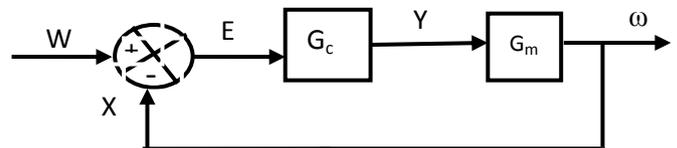

Fig. 2: Block diagram of the unit
speed  $\omega$  by noting that  $\omega(s) = s\theta(s)$ . Fig. 1 shows an additional rotor-disk system unlike lab # 4, during which only the shaft of the dc motor was considered. Consequently, the total mass moment of inertia  $J$  of the system in Fig. 1 is  $0.025 \text{ kgm}^{-2}$ . Fig. 2 shows the feedback block diagram of the speed control unit.
- a. Using Matlab SISO Control Design Toolbox or SIMULINK, obtain the *PI* parameters ( $C$  and  $T_i$  and the corresponding  $K_p = C \cdot T_i$ ) such that the unit-step response of the system in Fig. 2 have about 15 % maximum overshoot.